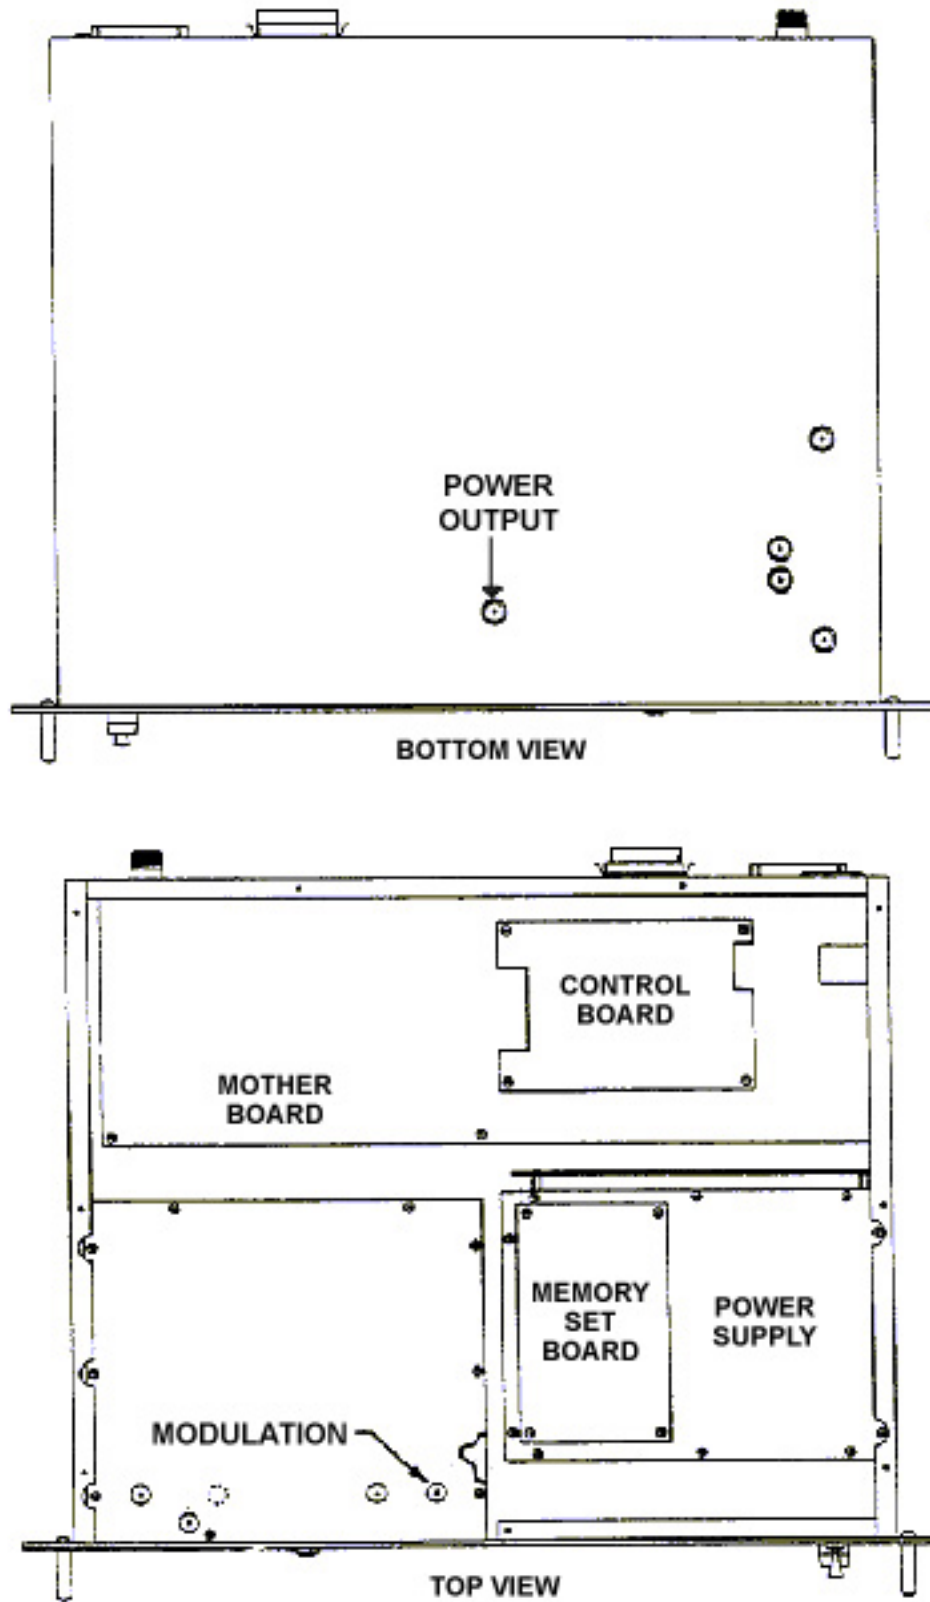

Figure 5. Power and Modulation Adjustment Controls
The locations at which certain transmitter settings and adjustments can be performed are shown in Figure 5. The top dust cover of the transmitter must be removed as described on page 3 to access the Modulation setting. The plastic plug must be removed prior to adjustment of the power output potentiometer, which is accessed from the bottom of the transmitter chassis. Perform an operational check of the transmitter after all adjustments. If alignment procedures for these settings are required, please consult All Weather Inc.
- 2** Turn the Power Level potentiometer (see Figure 5) until the output power reads 5 watts. If audible static is present, reduce the signal level at the Peripheral Interface as explained below.
- 3** Turn the Modulation Level potentiometer (see Figure 5) until the modulation meter displays the desired value.
- 2** Reducing the output signal will also decrease the modulation level. Increase the modulation level by adjusting the radio's Modulation Level potentiometer (see Figure 5).